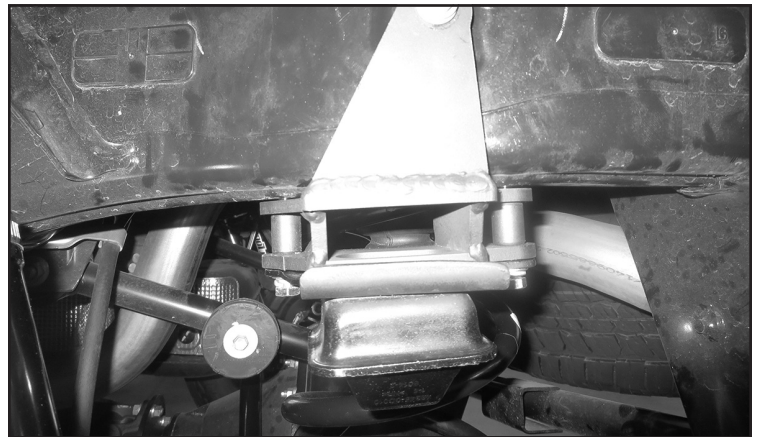

FIGURE 27 - STEP 27
27. Install the factory bumpstop to the new bracket using the supplied 8mm bolts and washers. Torque to 18 ft-lbs. **SEE FIGURE 27**